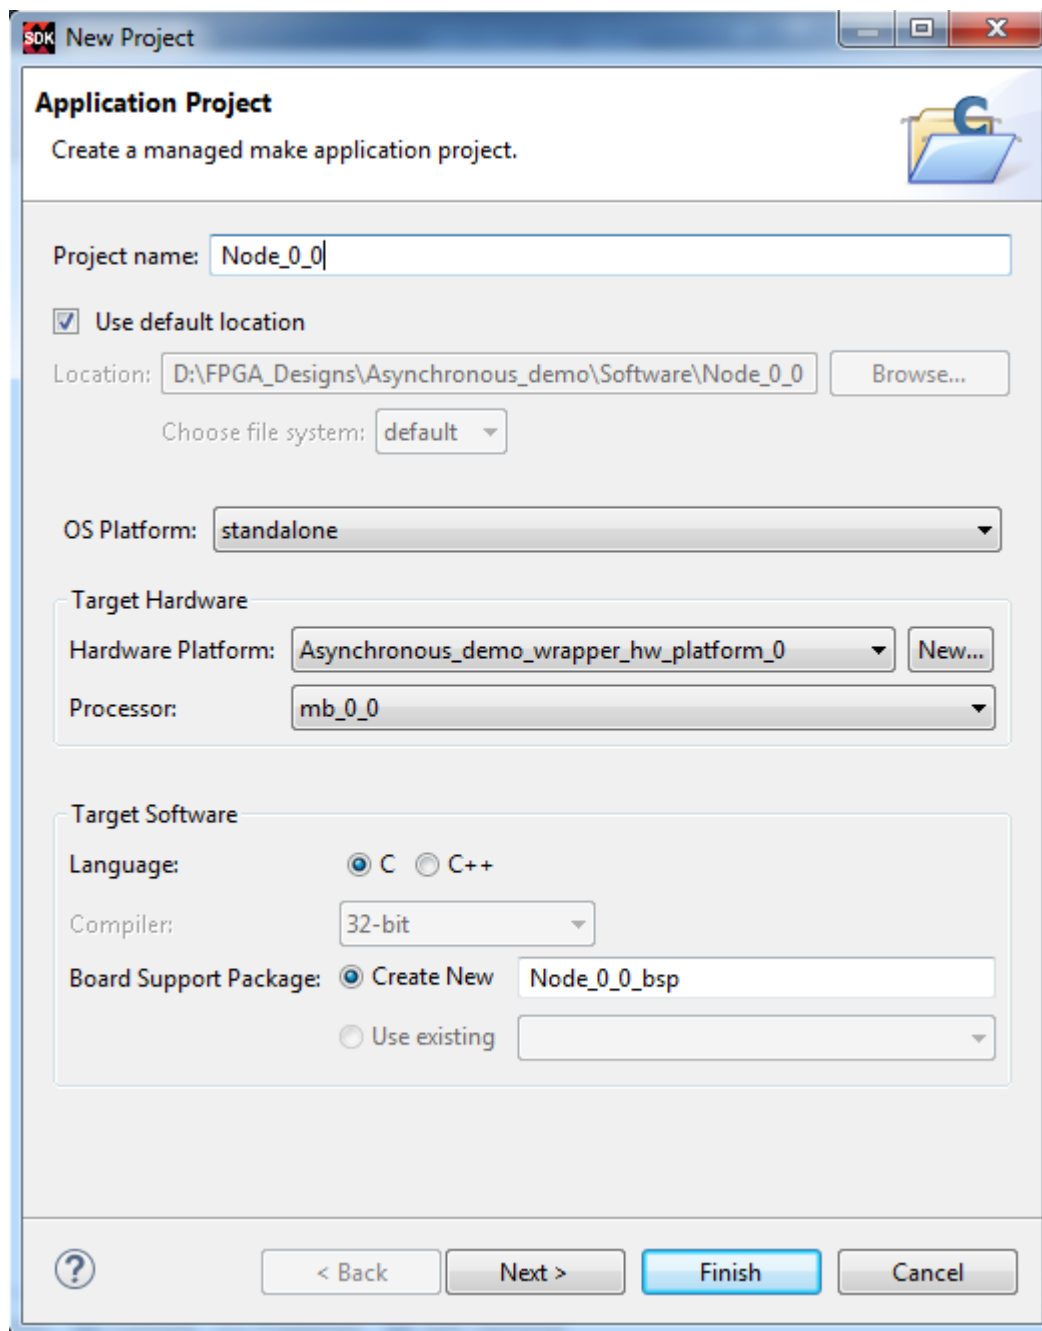

Figure 9.3.2. Creating a new Software Application project, and the corresponding bsp-file.
- In the SDK, start a new application project for every node that you have in the design (select File->New->Application Project). Fill in the name of the Project as Node_<node nr>_<cpu nr>. The associated BSP will be named after the project as Node_<node nr>_<cpu nr>_bsp. Select the CPU associated with the node CPU mb_<node nr>_<cpu nr>. The rest can be left at default value. See figure 9.3.2 below. If the SDK complains that the directory already exists on the disk, you have run the NSG software generation too early. Delete the directories and continue (press next or finish).